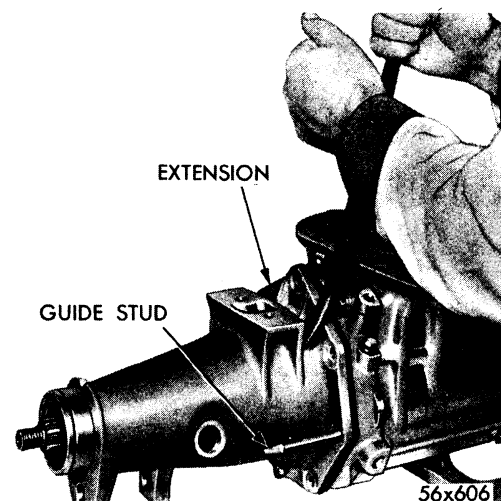

Fig. 44—Removal of Extension
**pinion and sleeve assembly.** Inspect the output shaft rear bearing oil seal and remove (if necessary) using puller, Tool C-748. Remove the seven transmission extension to case bolts and lockwashers. Install guide studs, Tool C-3283 and remove extension from output shaft support assembly by tapping housing lightly with a soft hammer. **Housing may be separated by using a pry bar against support screw, as shown in Figure 44.** Remove extension gasket.